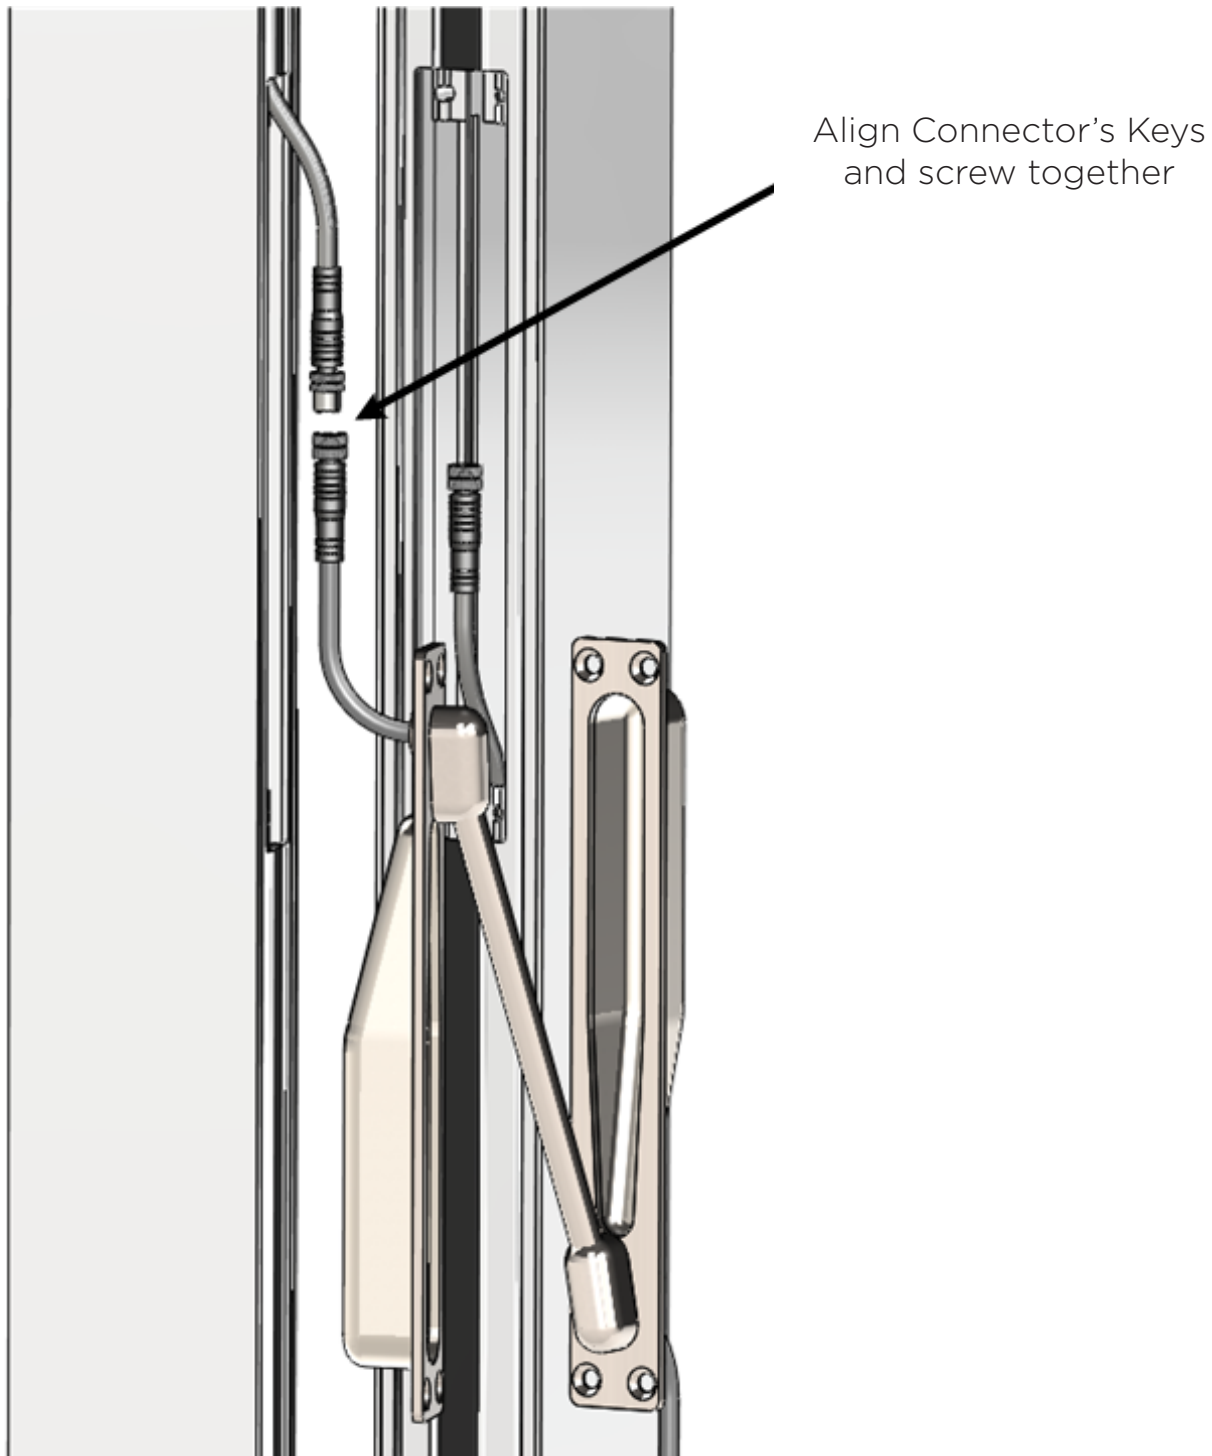

Figure 3 Connecting the Concealed Transfer Assembly to Frame and Door Wiring
4. Illustrations in figures 3 and 4 show the connections from the Window Controller to the Concealed Transfer and then to the IGU.